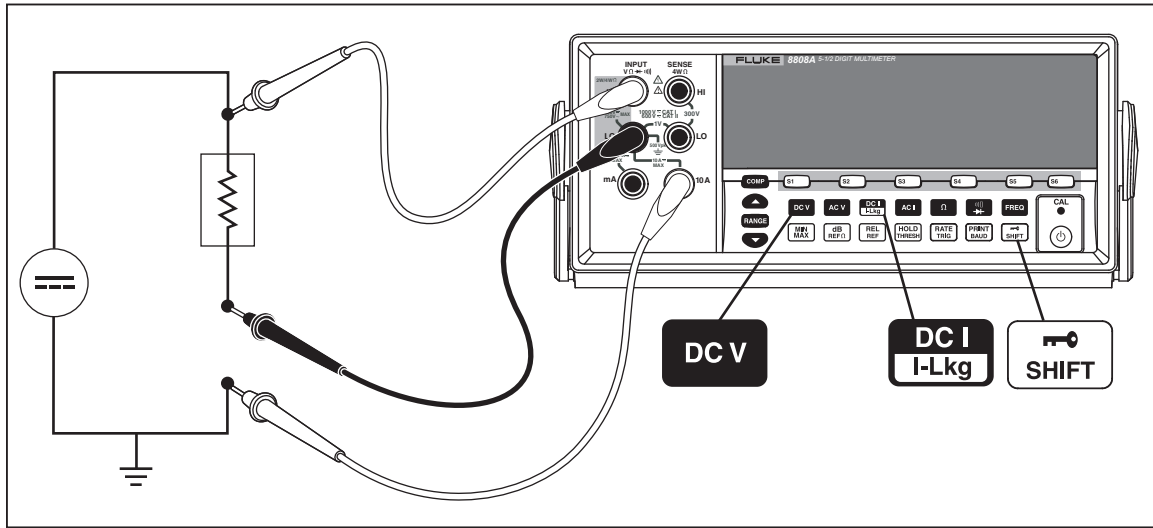

Figure A-2. DC Voltage and DC Current Measurement on Input Signal
Most applications of the dual display listed in Table A-2 can be performed using a single set of test leads connected to the **INPUT**  $V\Omega \rightarrow \rightarrow \rightarrow \rightarrow$  **HI** and **LO** terminals. However, to measure the voltage and current of an input signal requires three leads. Be sure that the voltage and current measurements share the same common as shown in Figure A-2. Then simply follow the precautions you would follow if you were making normal current measurements without a current clamp.
4. Connect the leads to the test circuit as shown in Figure A-2 and read the measurements on the display. Although current will be displayed as negative, it is in fact positive when interpreted according to current flow convention.